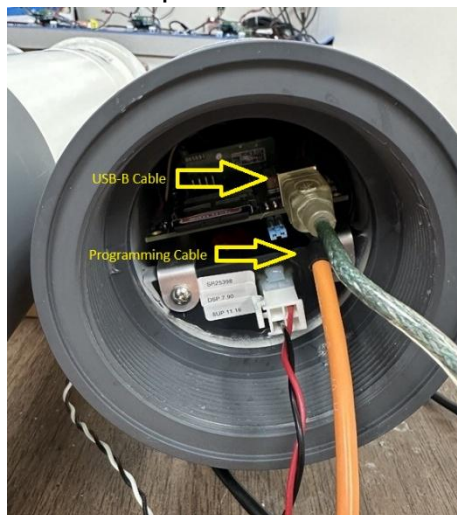
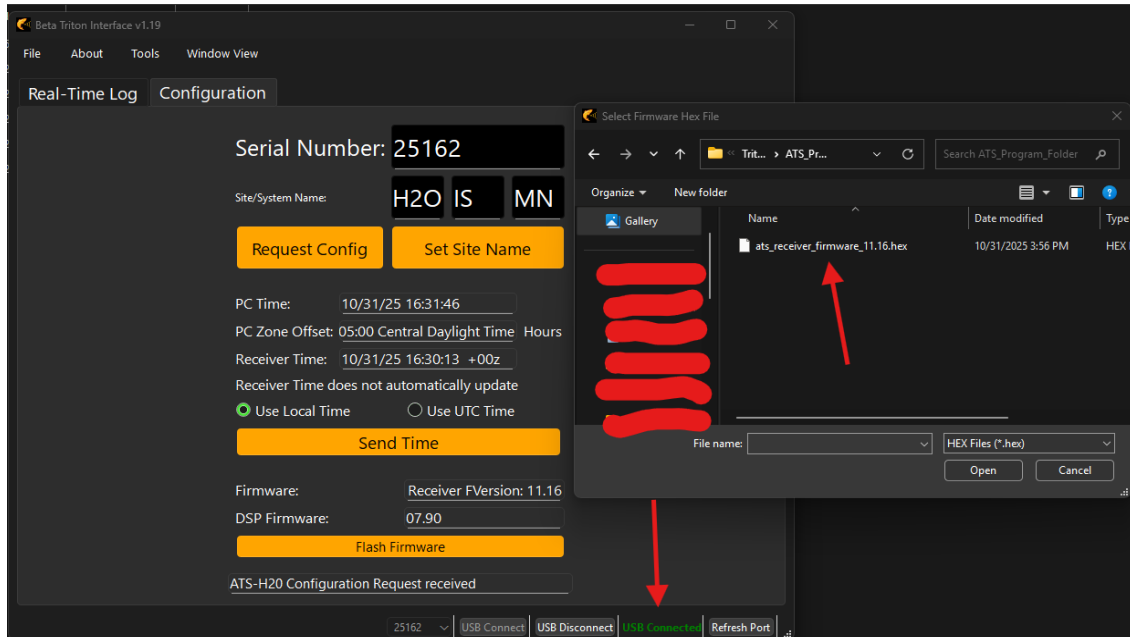

Figure 2 SR3001 Cable Setup
Figure 6 Choosing hex file
NOTE) To use the program/flash feature, the folder `ATS_Program_Folder` must be present and in the same directory as the software application. Additionally, the hex file that is to be used must be in the `ATS_Program_Folder` (Figure 2).
Step 4) Verify the receiver is connected by looking at the USB connection in the bottom right corner of the software. The flashing process cannot be performed unless the software is connected via the USB-B cable and the programming cable is also attached (Figure 2). After verifying the connections hit the flash firmware button. A window will pop up to select a hex file (Figure 6)